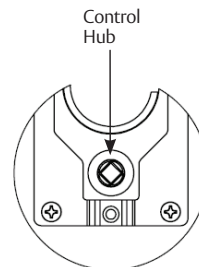

Figure 5
2. Align spindle with square/diamond hole in Control Hub (Figure 5) and assemble indicator onto mounting plate.